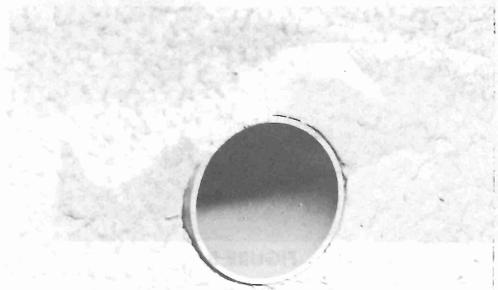

FIGURE 11
7.01 Prepare vacant conduits with the same packing procedure as Paragraph 6.02 (see Figure 11)